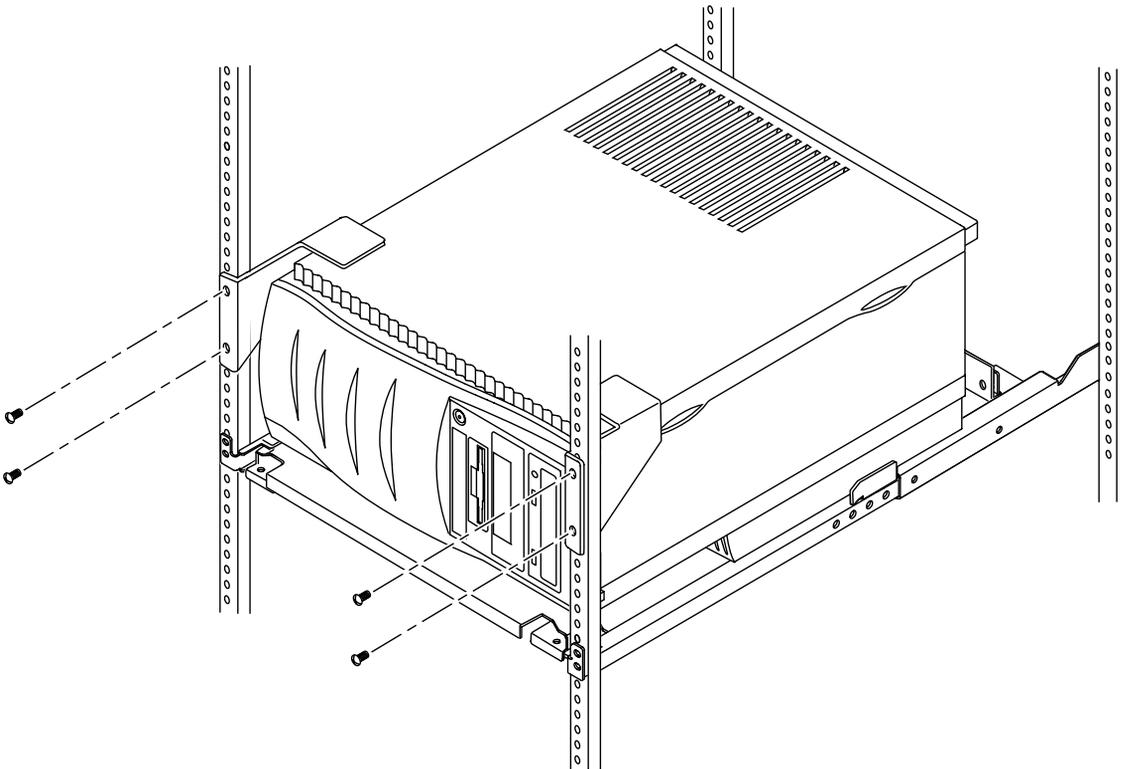

FIGURE 12 Fastening the Left and Right Front Brackets
6. Using two of the provided screws, fasten the left front bracket to the rack (FIGURE 12).
8. Using two of the provided screws, fasten the right front bracket to the rack (FIGURE 12).